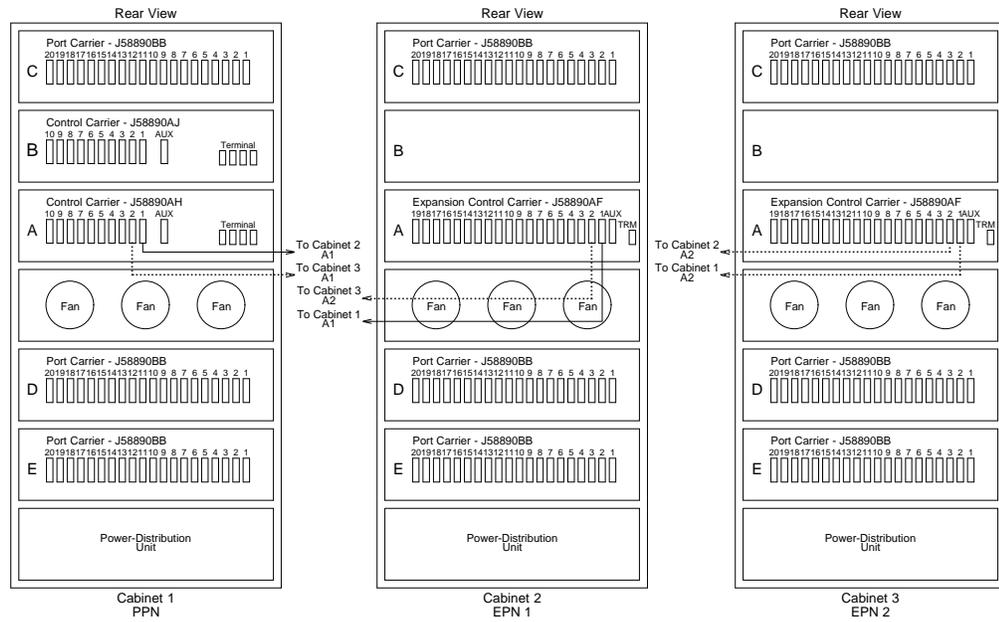
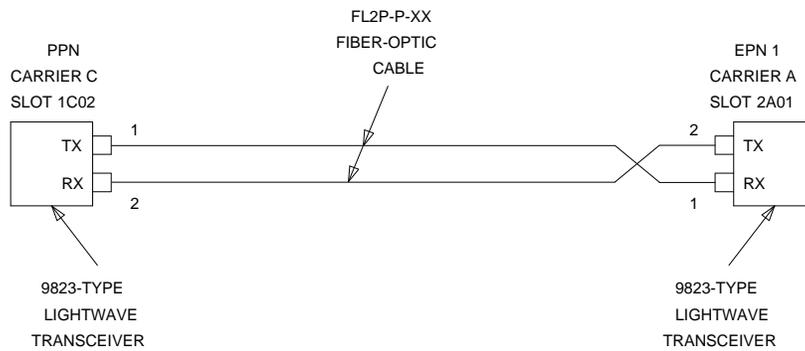
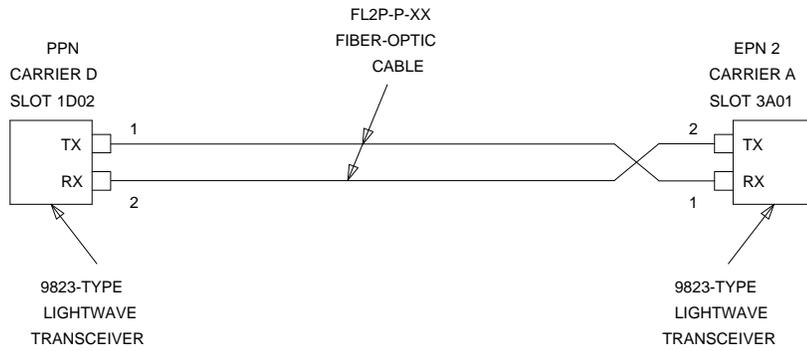
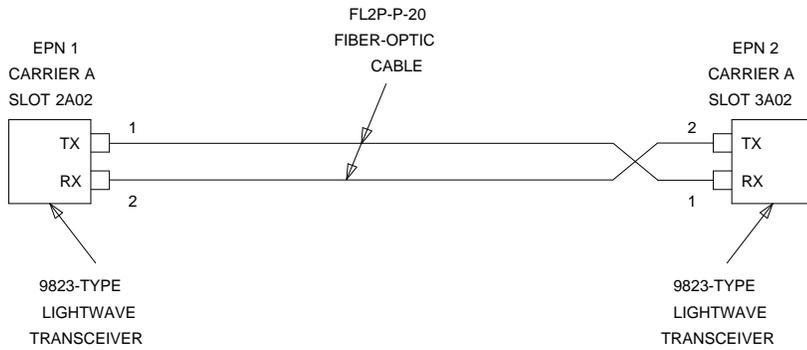

Figure 7-25. High-Reliability G3i V4 with Two or Three Port Networks
Figure 7-26. Fiber-Optic Connections PPN to EPN1
Figure 7-27. Fiber-Optic Connections PPN to EPN2
Figure 7-28. Fiber-Optic Connections EPN1 to EPN2
The connectors on the lightwave transceivers are labeled either “TX” (transmit) or “RX” (receive), while the fibers attached to each connector are numbered either “1” or “2.” A viable fiber connection is only made when both fibers in each cable (that is, “1” and “2”) route from the “TX” connector of a port network to the “RX” connector of its adjacent port network. For an example, refer to Figure 7-26 on page 7-65.
1. Behind control carrier A of PPN cabinet 1 (see Figure 7-25 on page 7-65, Figure 7-26, Figure 7-27, and Figure 7-28):